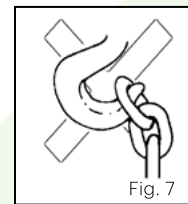

Fig. 7
- **Do not** attach the load to the tip of the hook (Fig. 7). The load must always be seated in the saddle of the hook. This also applies to the suspension hook.